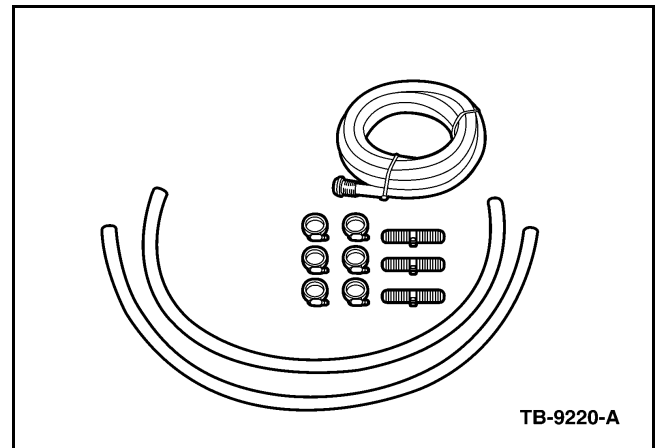

Figure 1 - Article 10-7-5
- a. Obtain two (2) hose coupling adapters and one (1) garden hose. The garden hose can be either a 5/8" (16 mm) or 3/4" (19 mm). The couplings can be 5/8" (16 mm) x 3/4" (19 mm) or 3/4" (19 mm) x 3/4" (19 mm) depending on the size garden hose used. On the vehicle the hose and thermostat ports are 3/4" (19 mm) size. (Figure 1)